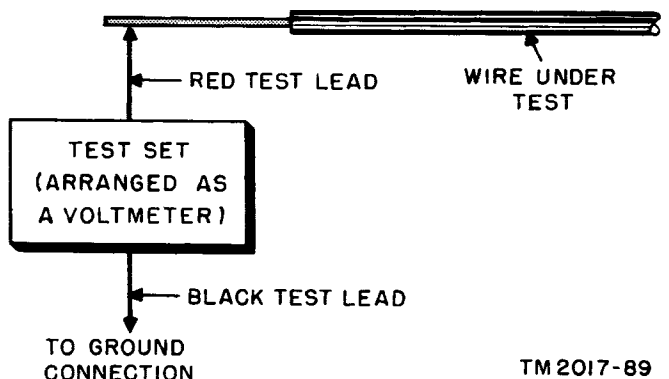

Figure 28. Simplified test setup for measuring dc voltage between wire and ground.
*b.* Use the procedures outlined in (1) through (5) below to measure the voltage between one wire of a pair and ground.
(1) Arrange Test Set TS-26(\*)/TSM as a voltmeter (par. 15a). *Use the 0- to 600-volt range.*
(2) Connect the red test lead to the wire under test (fig. 28).
(3) Connect the black test lead to ground (par. 13).
c. Connect the black test lead to ground (par. 13) and the red test lead to one wire of the pair under test as shown in figure 28.